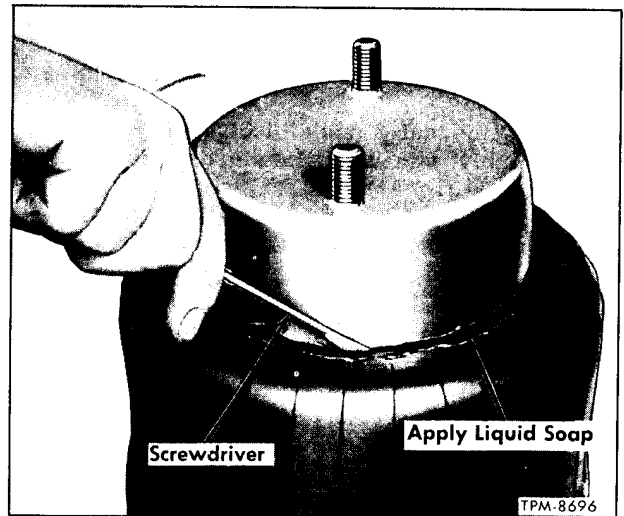

Figure 19—Loosening Bellows Bead From Lower Retainer
5. Apply liquid soap or glycerine to lower retainer surface at point of bellows contact (fig. 19). Force screwdriver between retainer and bellows bead (fig. 19) to allow fluid to reach bellows bead.